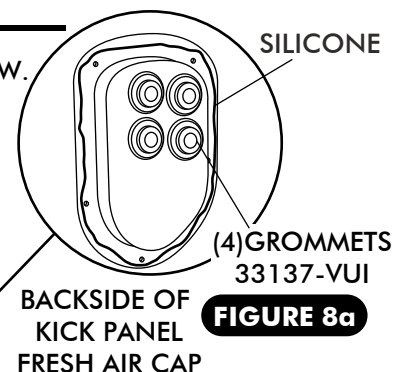

FIGURE 8a
- ☐ INSTALL (4) GROMMETS IN KICK PANEL FRESH AIR CAP, SEE FIGURE 8a BELOW.
- ☐ APPLY A 1/4" BEAD OF SILICONE AROUND THE BACK SIDE OF KICK PANEL FRESH AIR CAP AS SHOWN IN FIGURE 8a, BELOW.